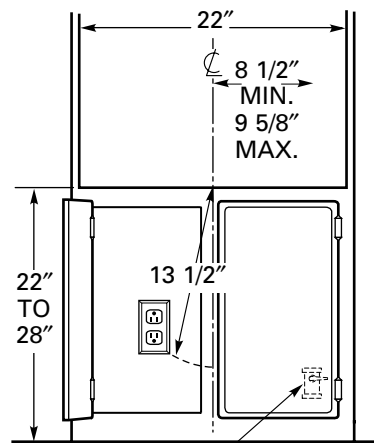

Fig. 6
- B** Install the electrical outlet below the oven on the left side, in a location that is easily reached through the cabinet doors. (See Fig. 6).